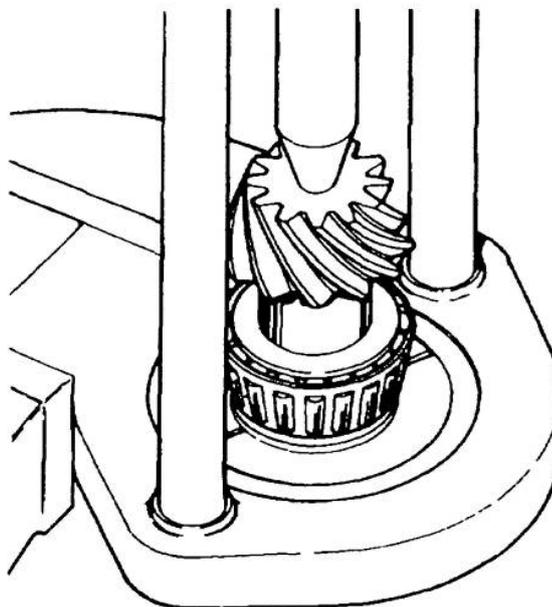

Figure 258 Installation of the Pinion Shaft Inner Bearing Cone
- l.** Using special tools MS47 and 18G47-6, install the pinion shaft inner bearing cone (Figure 258).